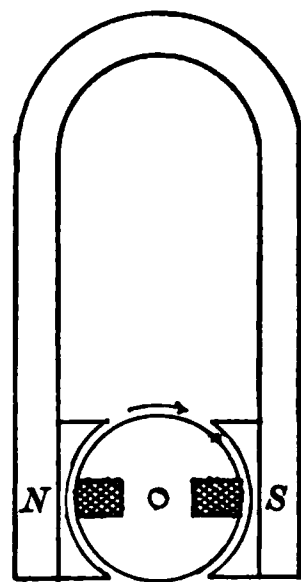

FIG. 286. — Magneto has permanent steel magnets.
324. Excitation of the field of generators. In the magneto (Fig. 286) the magnetic field is supplied by permanent steel magnets. In most other generators, the magnetic field is furnished by powerful electromagnets. Sometimes the current needed to excite these magnets is supplied by some outside source, such as a storage battery, but generally the machine itself furnishes the exciting current. There are three types of generators differing in the method of exciting the field coils; (1) *series-wound*, in which the whole current generated passes through the field coils on its way to